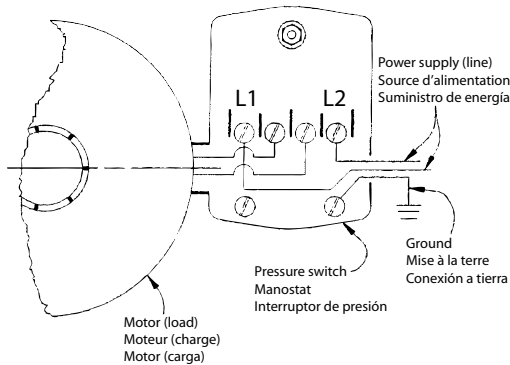

Figure 6
**Wiring:** Use an electrician to wire and connect the electrical service to the pump. The pressure switch is wired to the motor at the factory and the voltage for which the motor is wired is indicated by a sticker on the back of the motor. Make sure the motor is wired for the same voltage as the power supply. Refer to the motor nameplate or inside terminal cover for voltage changing instructions. The power lines should be connected to the pressure switch terminals marked L1 and L2 (Figure 6). It is recommended that a separate circuit be led from the distribution panel to the pump unit. A ground fault circuit interrupter (GFCI) protected circuit should be used for all electrical devices operating near water. Install a proper fused disconnect switch in the line and make certain the wiring is adequately sized and well insulated. **Undersized wire between the motor and the power source will adversely limit the starting and load carrying abilities of the motor.** Minimum wire sizes for motor branch circuits are recommended in Table 3. For added safety, ground the pump and motor to the well casing (if metal) or the ground in the distribution panel.